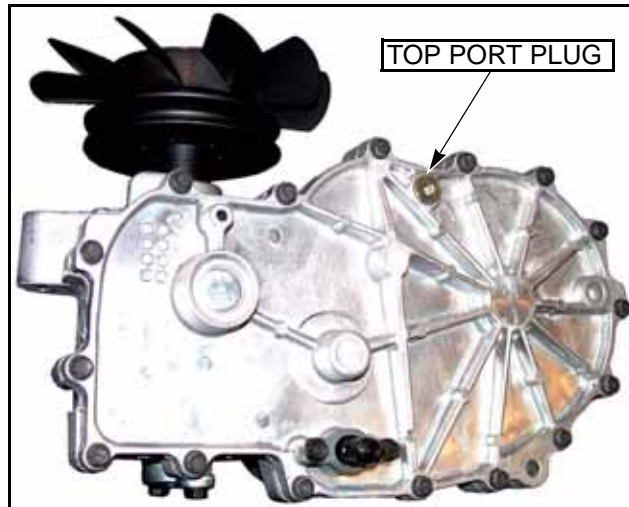

FIG. 4
9. **IMPORTANT:** Remove the top port plug from both transaxles prior to filling with oil. This will allow the transaxles to vent during oil fill. FIG. 4
11. Fill with 20W50 motor oil until oil just appears at the bottom of each transaxles top port (approximately 2 qts. per transaxle). Install the top port plug into each transaxle as the oil level reaches this port. Torque plugs to 180 in. lbs. Clean up any oil that leaked from the ports. FIG. 4